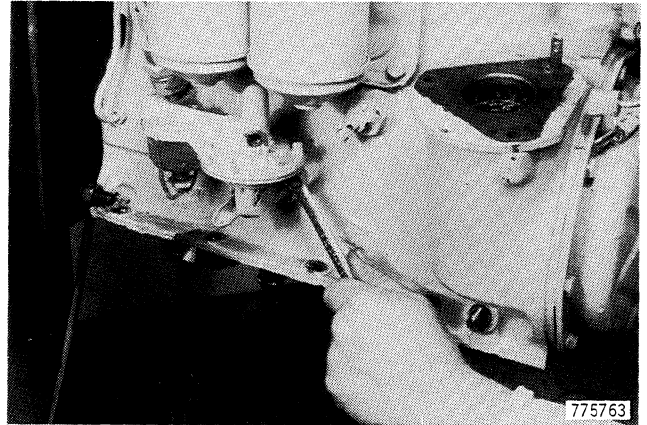

Figure 17
4. Remove the cap screws and lock washers from the fuel feed pump, Figure 17.